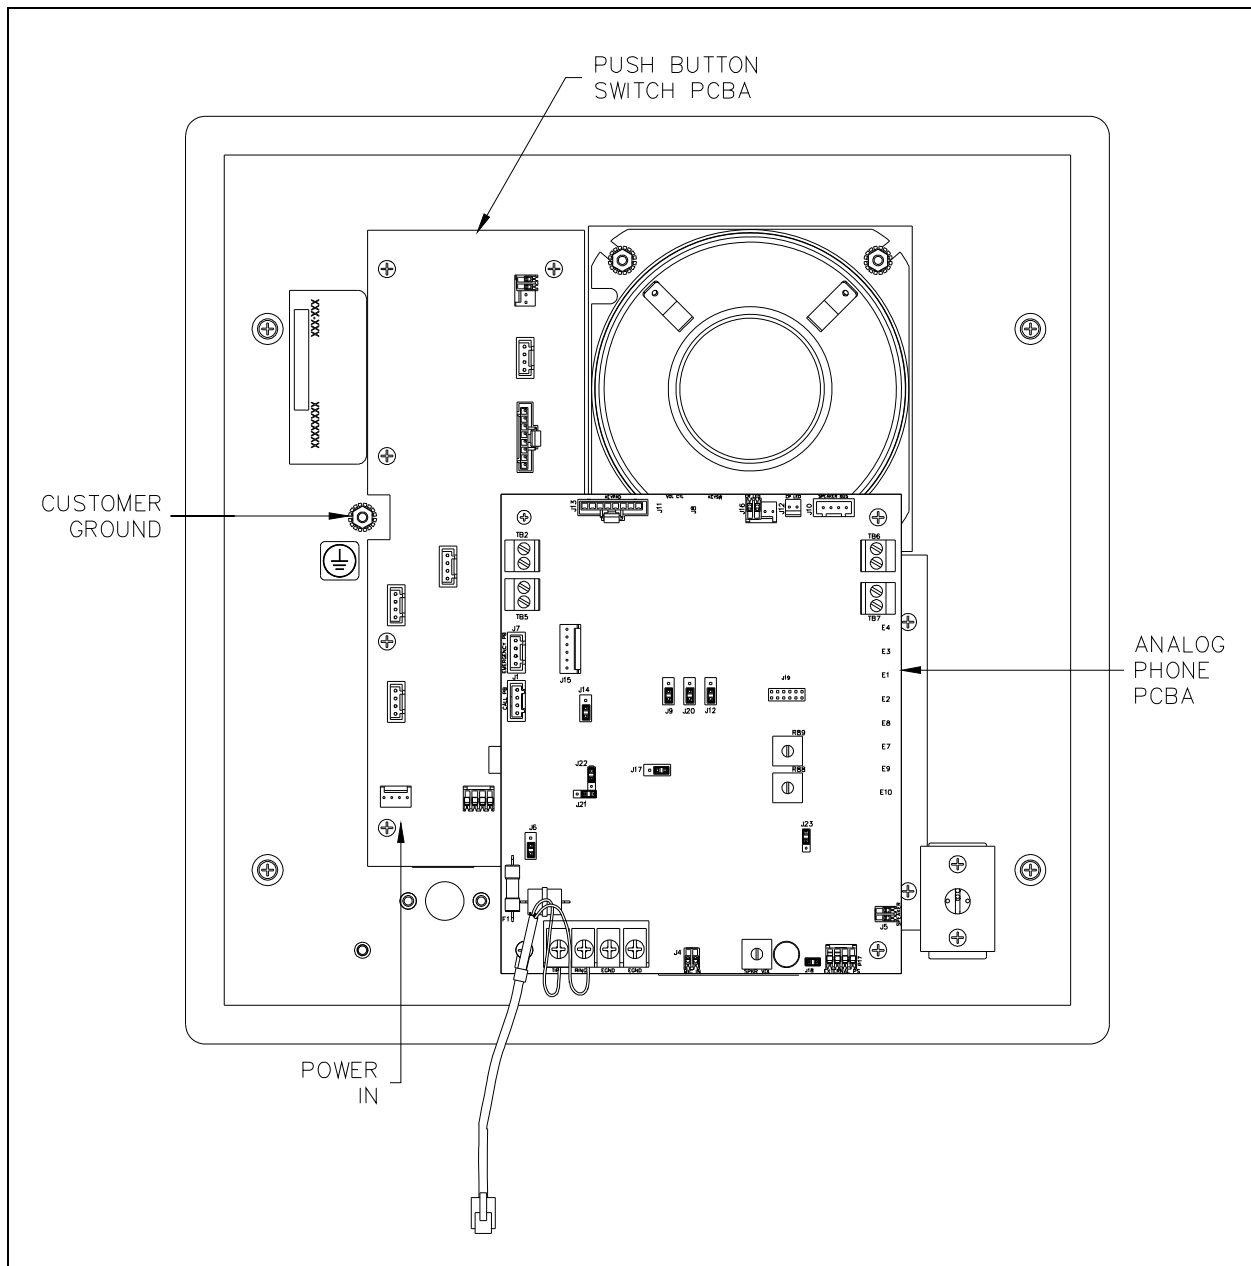
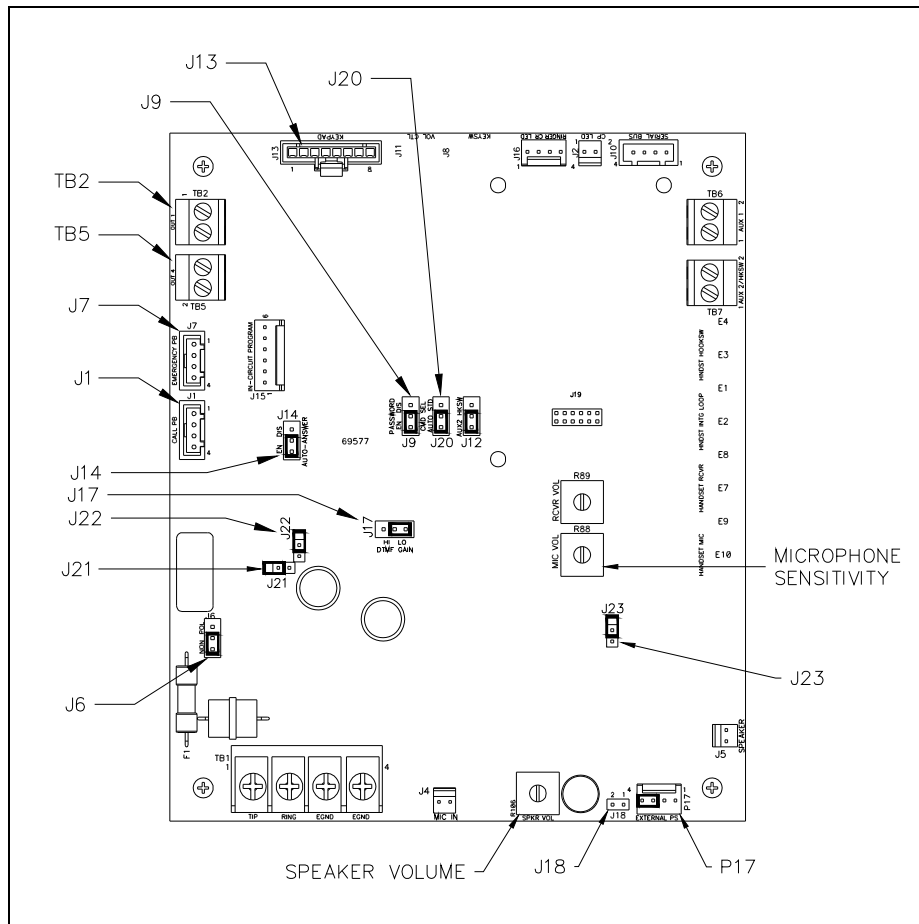

Figure 4. Inside Front Panel
Figure 9. No. 69577-101 PCBA (Top View)
10. Plug the power supply connector into P18 on the push-button switch PCBA (see Figure 4).
9. Plug the power supply connector into P18 on the push-button switch PCBA (see Figure 4).
The plug-in power supply provided with each telephone requires 100–240 V ac input to provide a 5 V dc output to the unit. The power supply has a 4-foot power cable with modular plug that plugs into P18 on the push button switch PCBA (see Figure 4 and Figure 9 for the location of P18).
The hardware configuration options are explained in the following sections and the necessary jumper settings are identified to enable or disable each option. Read each section and record the selected options (see Table 3) prior to making the necessary changes (see Figure 9 for the jumper locations).
Each telephone includes two isolated solid-state switches capable of switching a maximum of 125 mA at 48 V dc or 80 mA at 28 V ac. TB2 (OUT1) and TB5 (OUT4) on the emergency telephone PCBA provide the connections for the auxiliary outputs (see Figure 9).
Output one connects to terminal block TB2 on the telephone's PCBA (see Figure 9). This output closes when the AUTO-DIAL 1 push button is pressed and remains in that state for the duration of the telephone call.
Output four connects to terminal block TB5 on the telephone's PCBA (adjacent to TB2). This output is remotely controlled by a DTMF command issued from the called telephone. This remote-control output can be used to activate or control a door latch, gate relay solenoid, alarm, etc. from the called party location (see Figure 9).